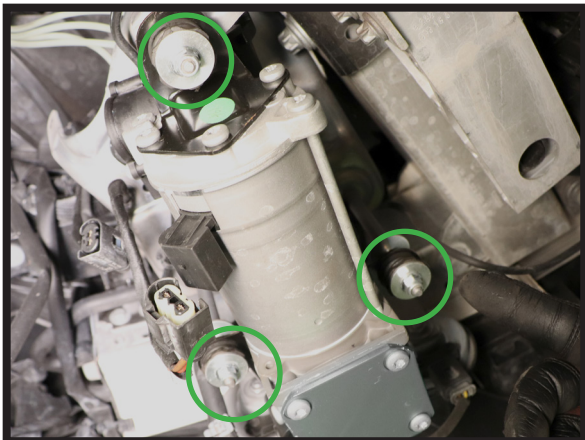

FIGURE 8
8. LOCATE AND REMOVE THE THREE (3) MOUNTING NUTS TO REMOVE THE COMPRESSOR FROM THE VEHICLE. (FIGURES 8, 9, 10, 11)